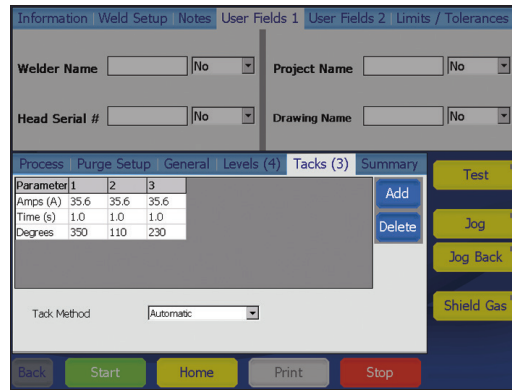

Fig. 30—Tacks Tab
<p>Tacks (X) (Fig. 30)</p>	<p>The M200 power supply supports weld procedures with tacks—nonpenetrating spot welds used to hold work pieces in place. The number in parentheses indicates the number of tacks specified for the weld procedure.</p> <p>To set the tack method, choose from the options available in the drop-down box next to the user field:</p> <p>Automatic The entire selected weld procedure will be completed when the Start button is pressed on the Process tab.</p> <p>Tacks Only Only the tacks portion of the selected weld procedure will be completed. When the user returns to the Process tab, a Start Tacks button will appear under the Weld Head Installed graphic. Press this button to complete the tacks. The Start button will change to Start Levels. Press this button to begin the remainder of the weld procedure.</p> <p>To add tacks, press the top of a column to highlight it, then press the Add button on the right side of the window. A new column containing a copy of the selected column's data will be added after the selected column. Repeat for additional tacks.</p> <p>To delete tacks, press the top of the column or columns to select them, then press the Delete button on the right side of the window.</p> <p>Use the onscreen keypad to enter or change a parameter. See page 67 for more information about weld procedures using tacks.</p>